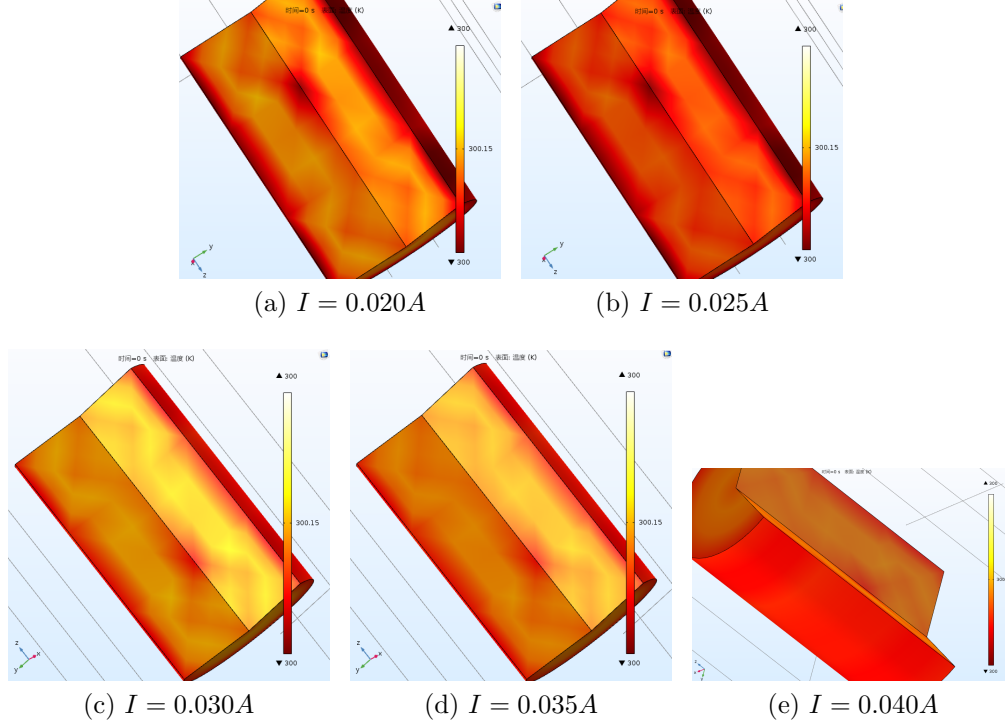

Figure S1: Temperature field distribution of the ideal resistor model.
1. Fig. S1: Temperature field distribution of the ideal resistor model.